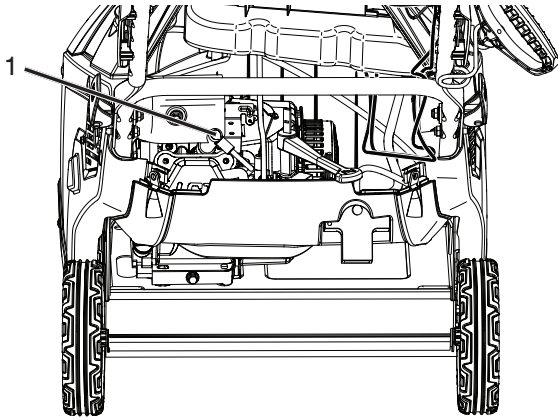

Figure 31
15. Disconnect the spark plug wire from the spark plug (Figure 31).
20. Connect the spark plug wire to the spark plug (Figure 31).